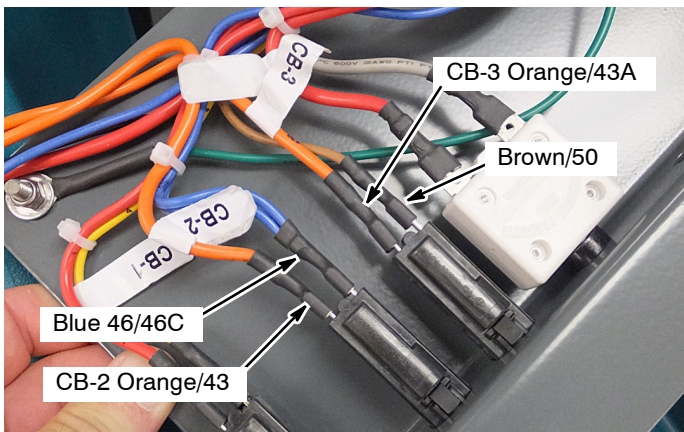

Fig. 14
3. Connect the following wires to circuit breakers as shown (Figure 14).